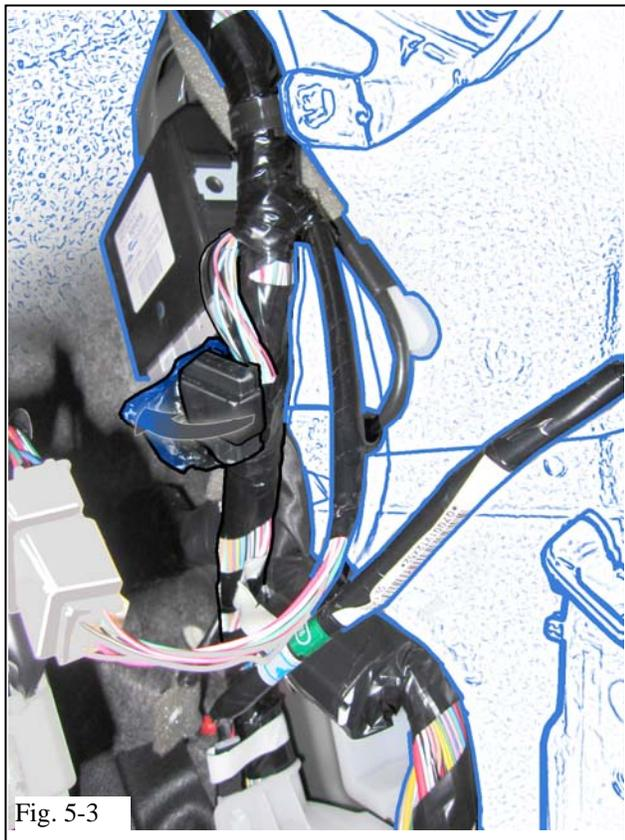

Fig. 5-3
- (e) Carefully remove the Tape securing the Vehicle's 22P Connector. (Fig. 5-3)